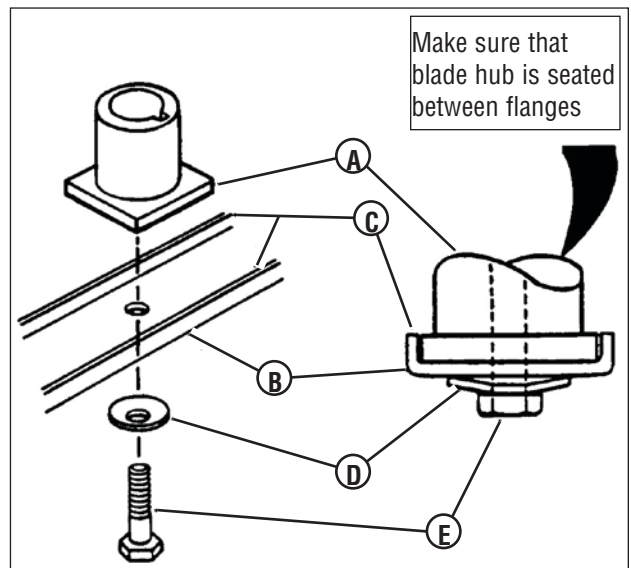

Figure 19: Removing the mower blade
1. Inspect the blade (**Figure 19**) frequently for signs of excessive wear or damage:
- (A) New blade
- (B) Wear limit (cracks or notches begin to appear on tip)
- (C) Dangerous condition! Do not use on the mower! Replace with a new blade.
3. Remove the blade (**B, Figure 19**).
- Reinstall blade (**B**, **Figure 19**). Note the correct assembly order: